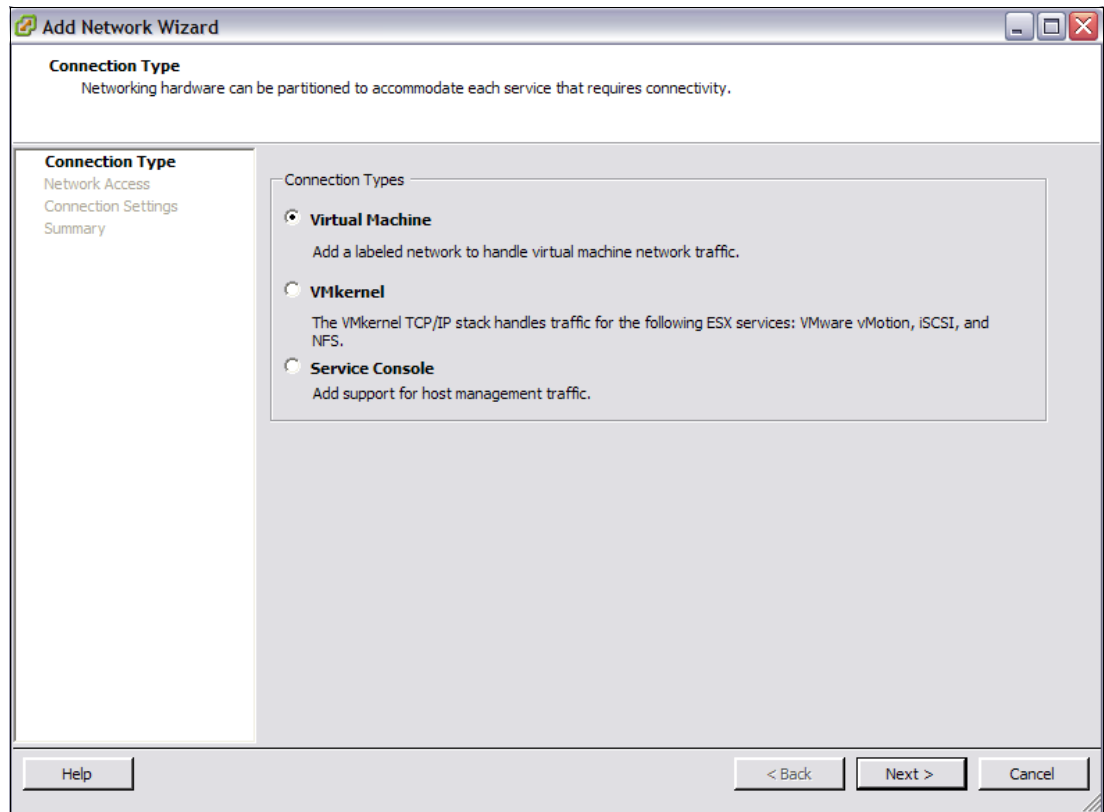

Figure 22-69 Connection Type
2. Select Virtual Machine as the Connection Type, and click **Next** as shown in Figure 22-69 on page 701.